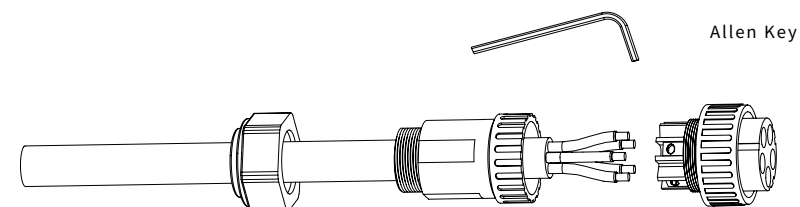

Figure 4-17
- ③ Insert the stripped end of the five wires into the appropriate hole of the terminal head by following the rules: yellow green wire to PE port, red or brown fire wires to L ports (no requests for the sequence of three fire wires), and blue or black wire to the N port. Please try to pull out the cable to make sure it is well connected. As shown in Figure 4-17: